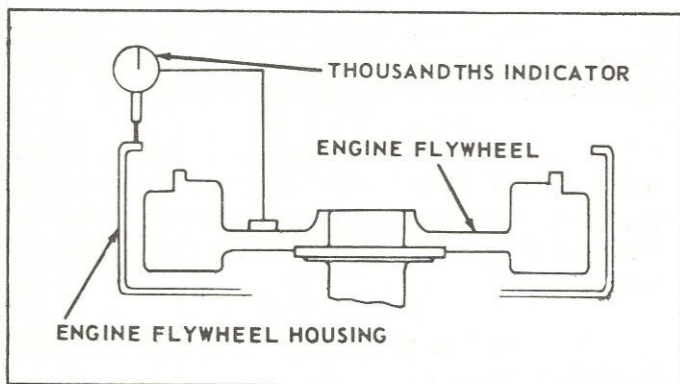

Figure 37. Checking the Face of the Engine Flywheel Housing.
**B. Checking Face of Engine Flywheel Housing.** Bolt a thousandths indicator or gauge to the engine flywheel so that the indicator is perpendicular to the face of the engine flywheel housing, and the indicator stem is riding on the face of the flange (fig. 37). Rotate the engine flywheel and note the face deviation of the engine flywheel housing flange. The face deviation must not exceed .008 inch.